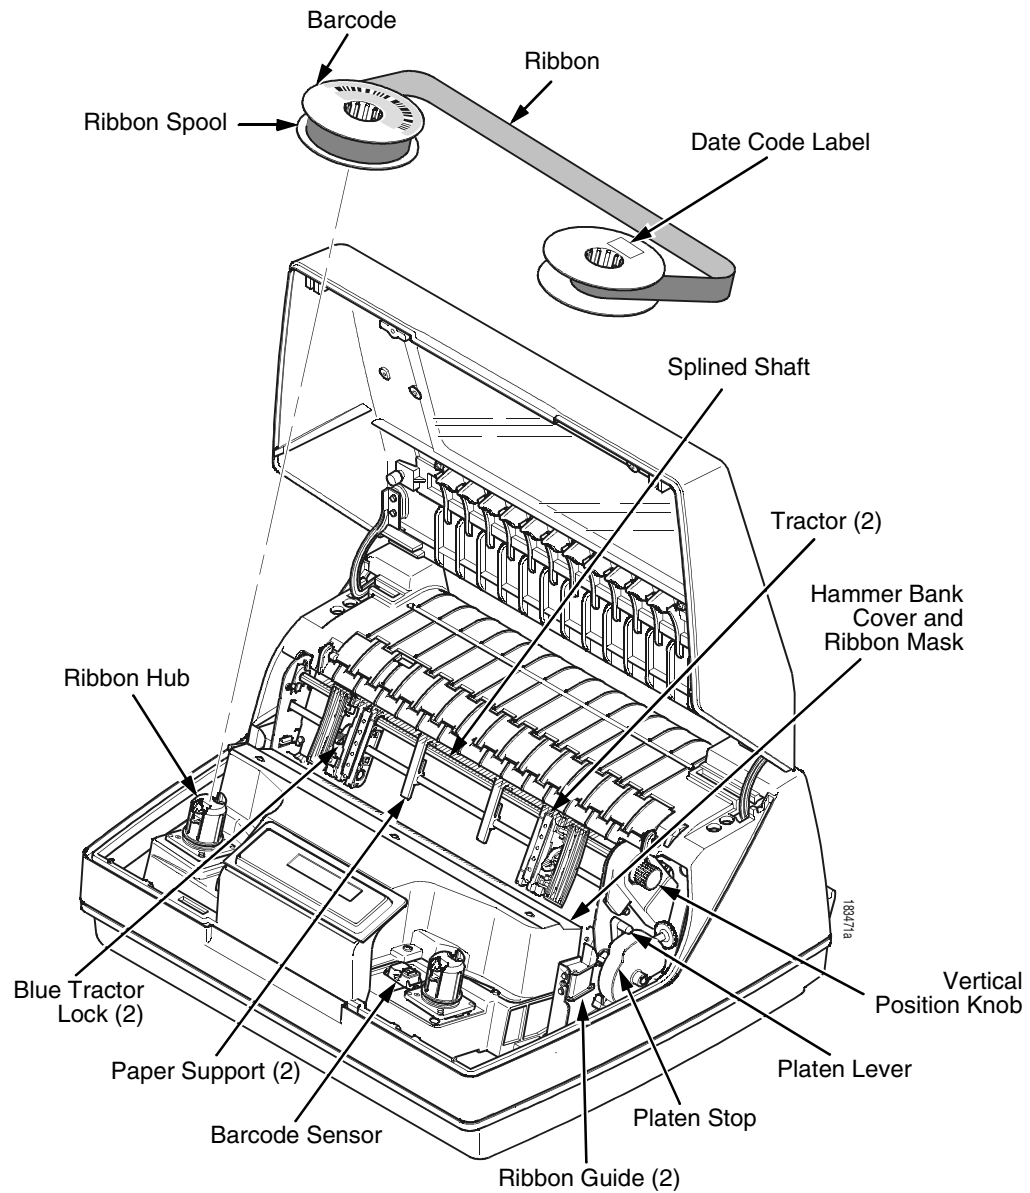

Figure 4. Printer Component Locations
1. Raise the printer cover. Raise the platen lever as far as it will go. (See Figure 4 on page 23 for the location of the lever.)
6. Pull the new paper above and behind the ribbon mask, but in front of the existing paper. See Figure 4 on page 23 for the ribbon mask location. If necessary, gently press the existing paper back.